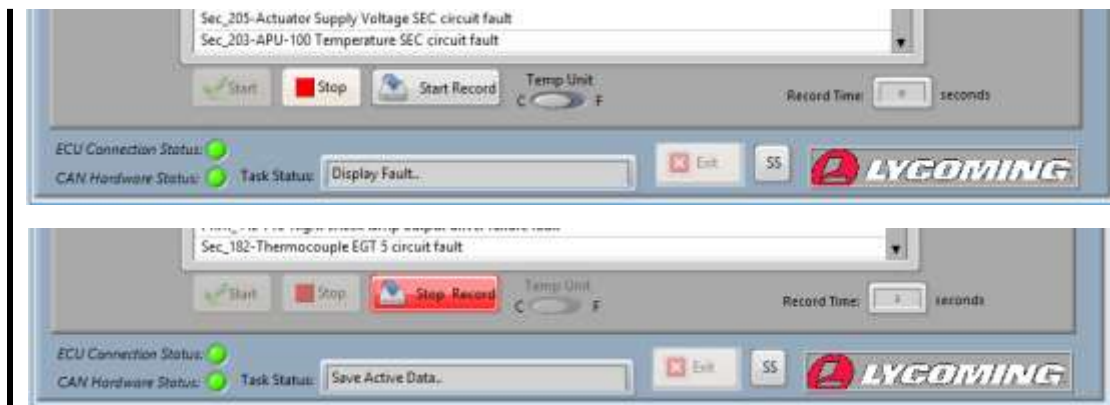

Figure C-26
4. Click the Stop button (Figure C-26) to stop reading active data from the ECU.